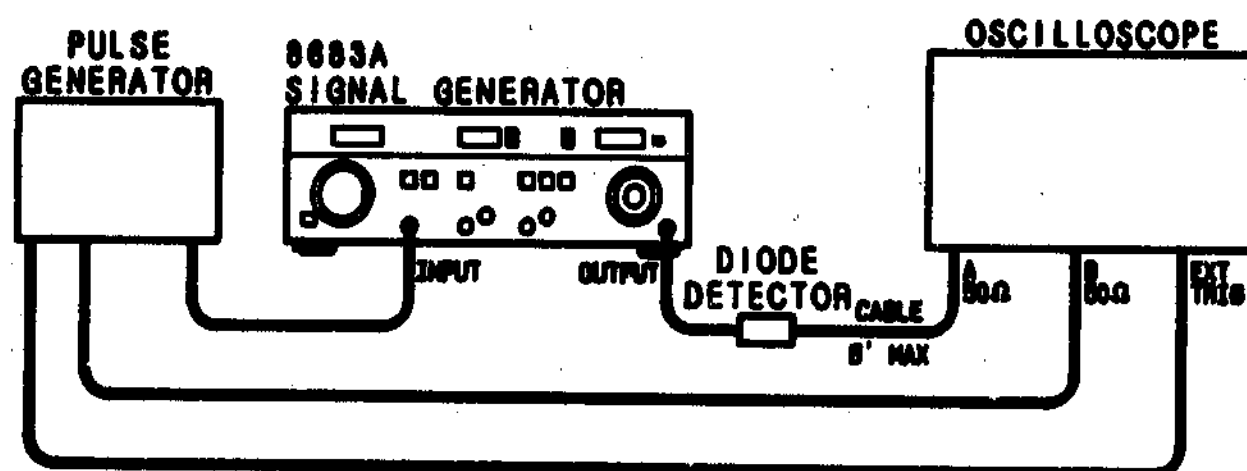

Figure 4-6. RF Pulse Characteristics Test Setup
1. Connect equipment as shown in Figure 4-6.